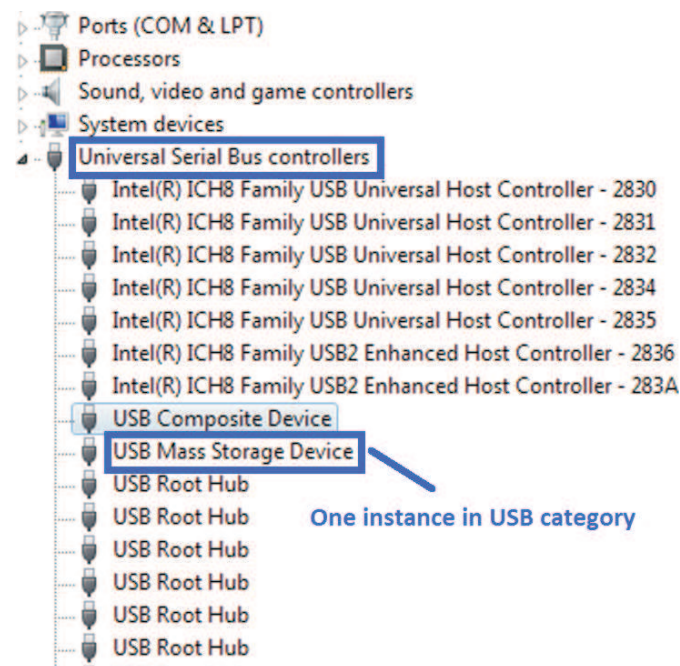

Figure 2-7. TUSB9260/TUSB9261 Instances With FW Containing Mass Storage Instance Only (No HID)
3. Previously burned FW in the SPI Flash containing a mass storage instance only (no HID) (see Figure 2-7).